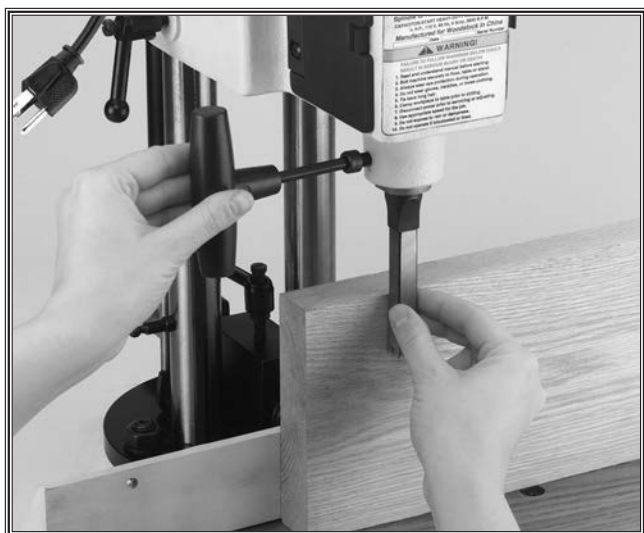

Figure 24. Back edge of chisel parallel with fence.
8. Loosen the cap screw holding the chisel housing and rotate the chisel until the back surface is parallel with the board. (**Figure 24**). Tighten the cap screw.